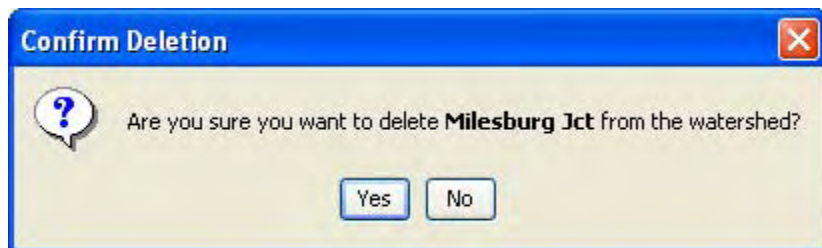

Figure 6.28 Confirm Deletion of Computation Point
3. Select **Delete Computation Point** from the shortcut menu. The **Confirm Deletion** dialog box will appear (Figure 6.28).